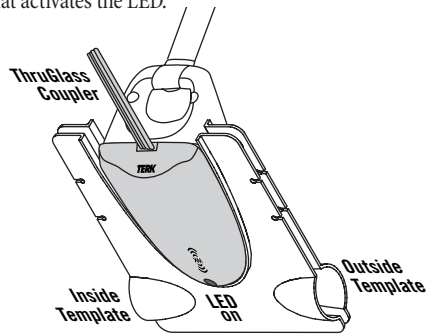

Figure 16. Positioning the ThruGlass Coupler onto the inside Installation Template. The coupler's LED activates when position is correct.
13. Without removing its protective backing, place the ThruGlass Coupler into the template, as shown in Figure 16 below. The LED should turn on to indicate that the antenna is properly passing RF signals and dc current through the glass. If it does not turn on, slightly re-position the template until you find a location that activates the LED.